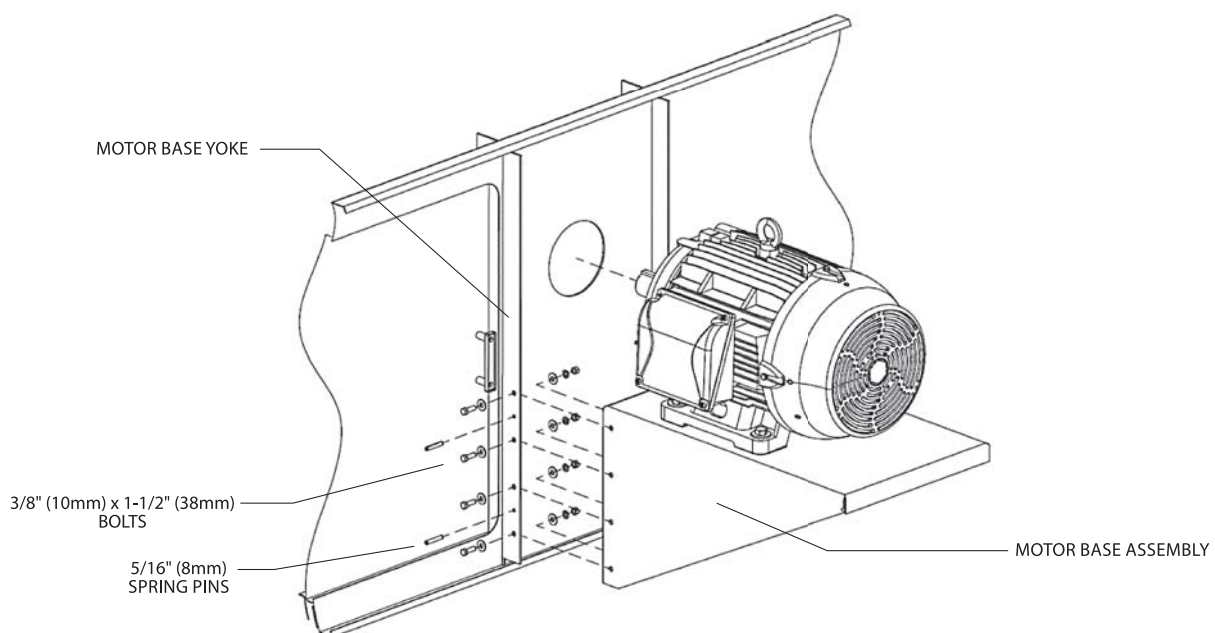

Figure 21 - External Motor Installation for Gear Drive Applications
1. Mount the motor base assembly to the motor base yoke using (4) 3/8" (10mm) x 1-1/2" (38mm) grade 5 bolts on each side of the motor base assembly. Do not fasten any hardware until step 2 is complete.
2. In addition to the grade 5 bolts, please install (2) 5/16" (8mm) spring pins on each side of the motor base assembly as shown in Figure 21.